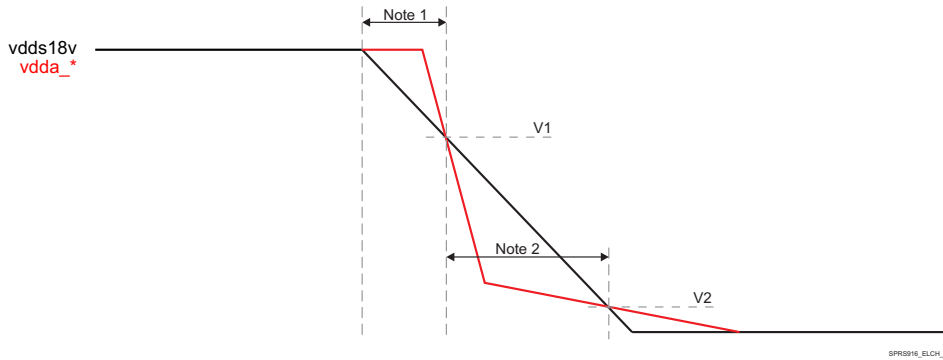

Figure 5-7. vdds18v and vdda\_\* Discharge Relationship(3)
- (3) General timing diagram items:
- (4) porz signals must be asserted low for 100  $\mu$ s min to ensure SoC is set to a safe functional state before any voltage begins to ramp down.
- (5) vddshv\* domains supplied by 3.3 V:
- must not exceed vdds18v by more than 2 V during ramp down, see Figure 5-7 “vdds18v and vdda\_\* Discharge Relationship”.
- (6) vddshv\* domains supplied by 1.8 V:
- (7) vddshv8 domain:
- (8) RTC domains (vddshv5, vdd\_rtc, and vdda\_rtc):
- (9) vdda\_\* domains:
- must satisfy the vdds18v and vdda\_\* Discharge Relationship (see Figure 5-7) if vdda\_\* disable point is later or discharge rate is slower than vdds18v.
- (10) vdda33v\_usb\* domains:
- (11) vdd\_dspeve, vdd\_gpu, vdd\_iva, vdd\_mpu domains can ramp down before or concurrently with vdd.
- (12) vdd can ramp down concurrently or after with vdd\_dspeve, vdd\_gpu, vdd\_iva, vdd\_mpu domains.
- (13) vdds\_dds\* domains: